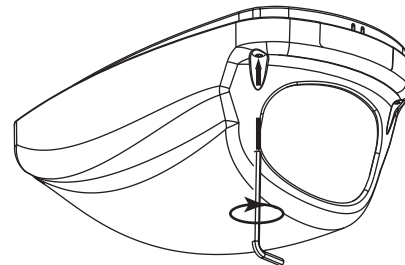

Figure 4 Tightening the Security Screws
10. Close the lower portion of the housing. The housing top will snap to the housing bottom and hold. This will allow you to tighten the two (2) 10-32 security screws without having to hold the housing in place (see Figure 4).